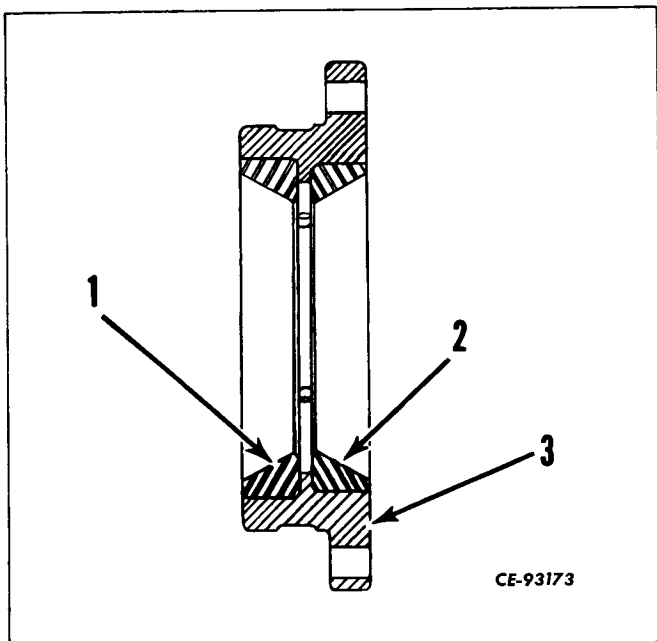

Figure 6-35
If new bearing cups are installed, press smaller cup (2, Fig. 6-35) and larger cup (1) in their corresponding bores and firmly against pinion bearing cage (3) shoulders.